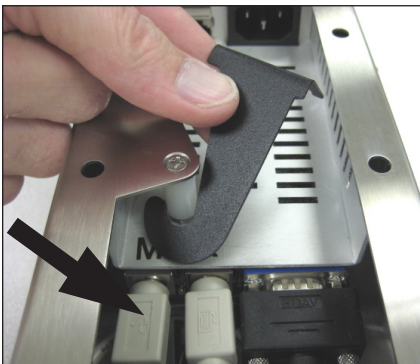

FIGURE 4
- Connect PS2 keyboard cables to KVM Extender as shown in Figure 4.
- Install retention bracket by first hooking bracket around post as shown in Figure 4.